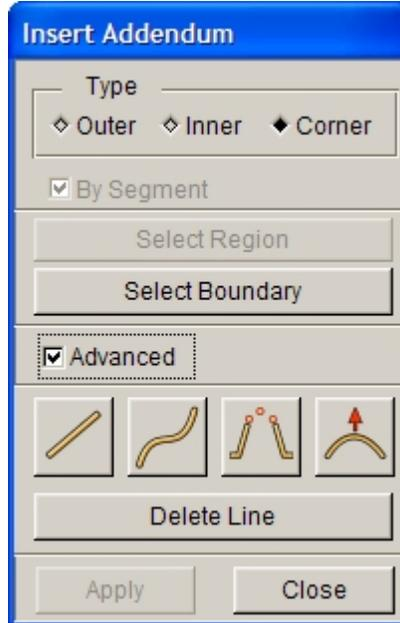
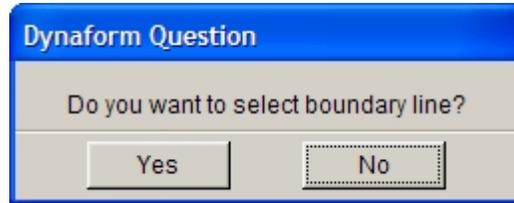
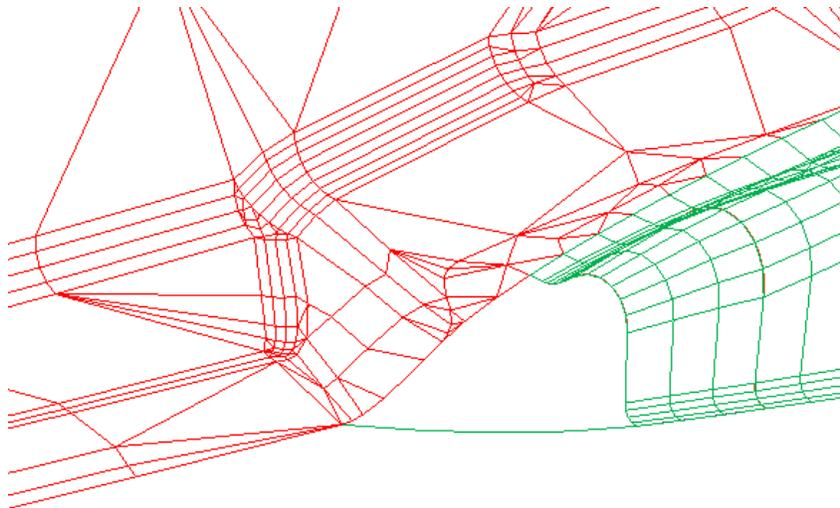
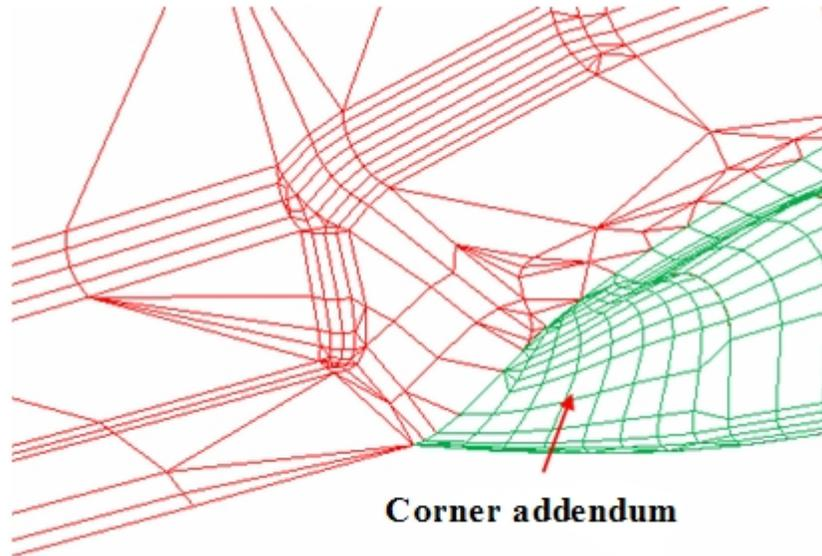

Figure 6.3.16 Corner Addendum
Figure 6.3.17 Dynaform Question dialog box
Figure 6.3.19 Created PO Line
Figure 6.3.22 Generated Corner Addendum
1. Select CORNER and ADVANCED, as shown in Figure 6.3.16. ADVANCED is used to create the PO line for corner addendum. The user can use the Create Spline Line function in ADVANCED options to create a PO line, as shown in Figure 6.3.19. About detailed descriptions for all the functions in ADVANCED, please refer to Section 5.2.11, Split Surface.
4. As illustrated in Figure 6.3.16, APPLY button is enabled. Clicking on APPLY, the program will pop up a question dialog box for the user to determine whether boundary line should be selected as the PO line for corner addendum, as shown in Figure 6.3.17. Click YES to select the previously created PO line. The program will auto generate the corner addendum, as shown in Figure 6.3.22.